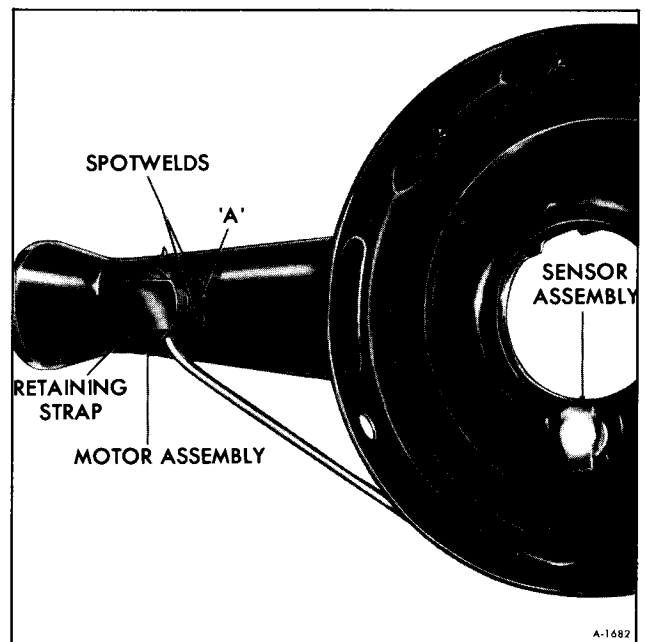

Figure 6—Air Cleaner Spot Welds
retaining strap. Do not damage the snorkel tube (See figure 6.).
1. Drill a 7/64" hole in snorkel tube at point "A" as shown in Figure 6.